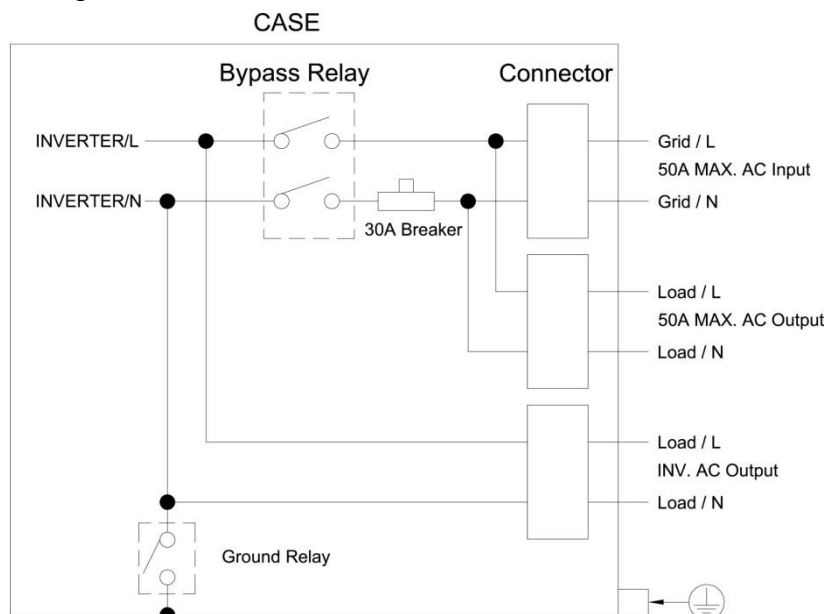

Fig 5 : AC Input / Output contact
- AC output: This output is always internally connected to the AC-input. It is therefore only available when an external AC-source like shore power, a generator or an outlet is present. Larger loads like a hot water boiler, electric cooking appliance or washing machine should be connected to this output . See fig 5.